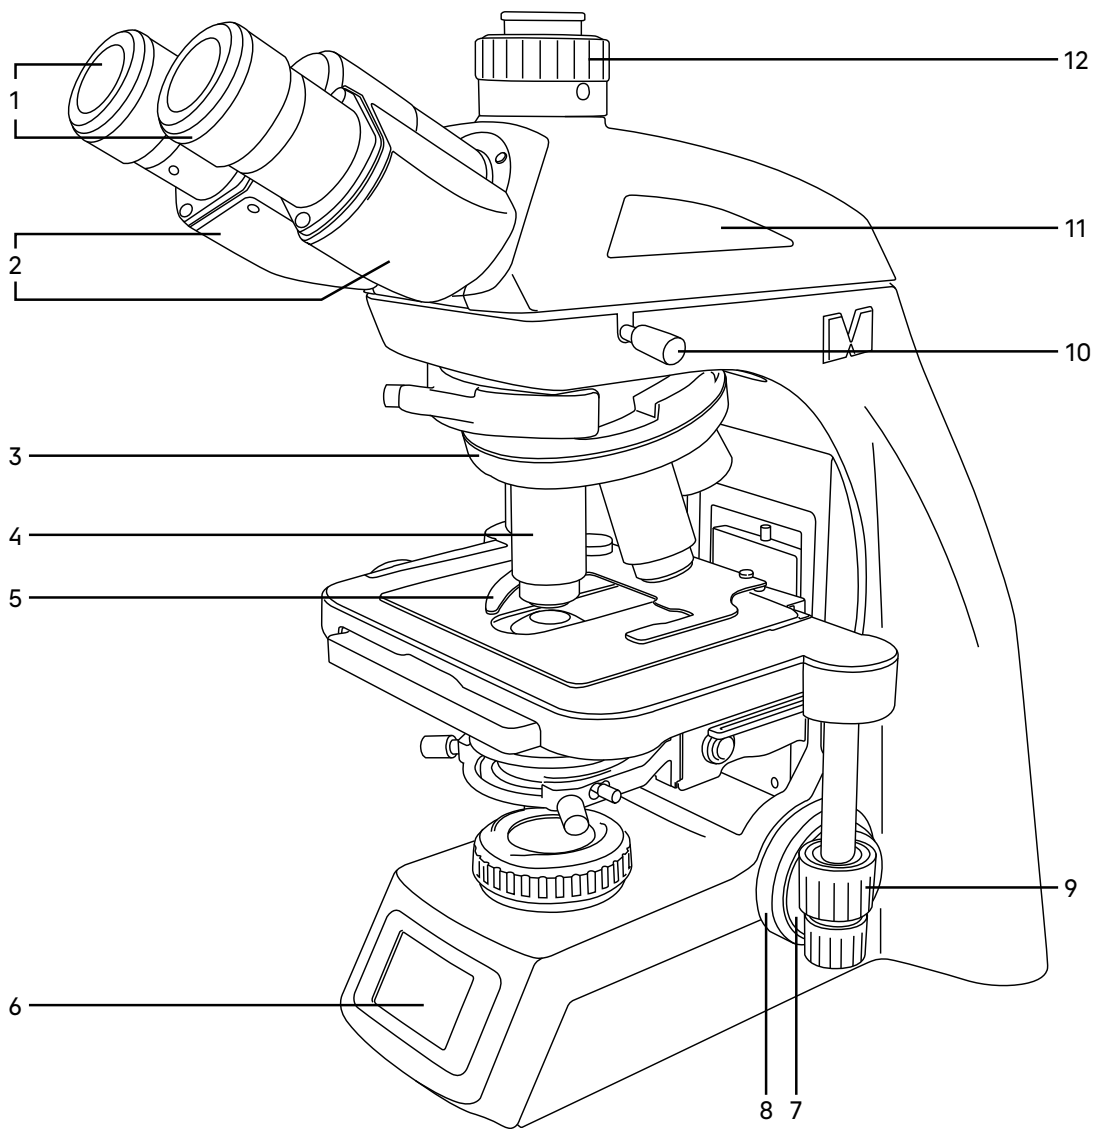
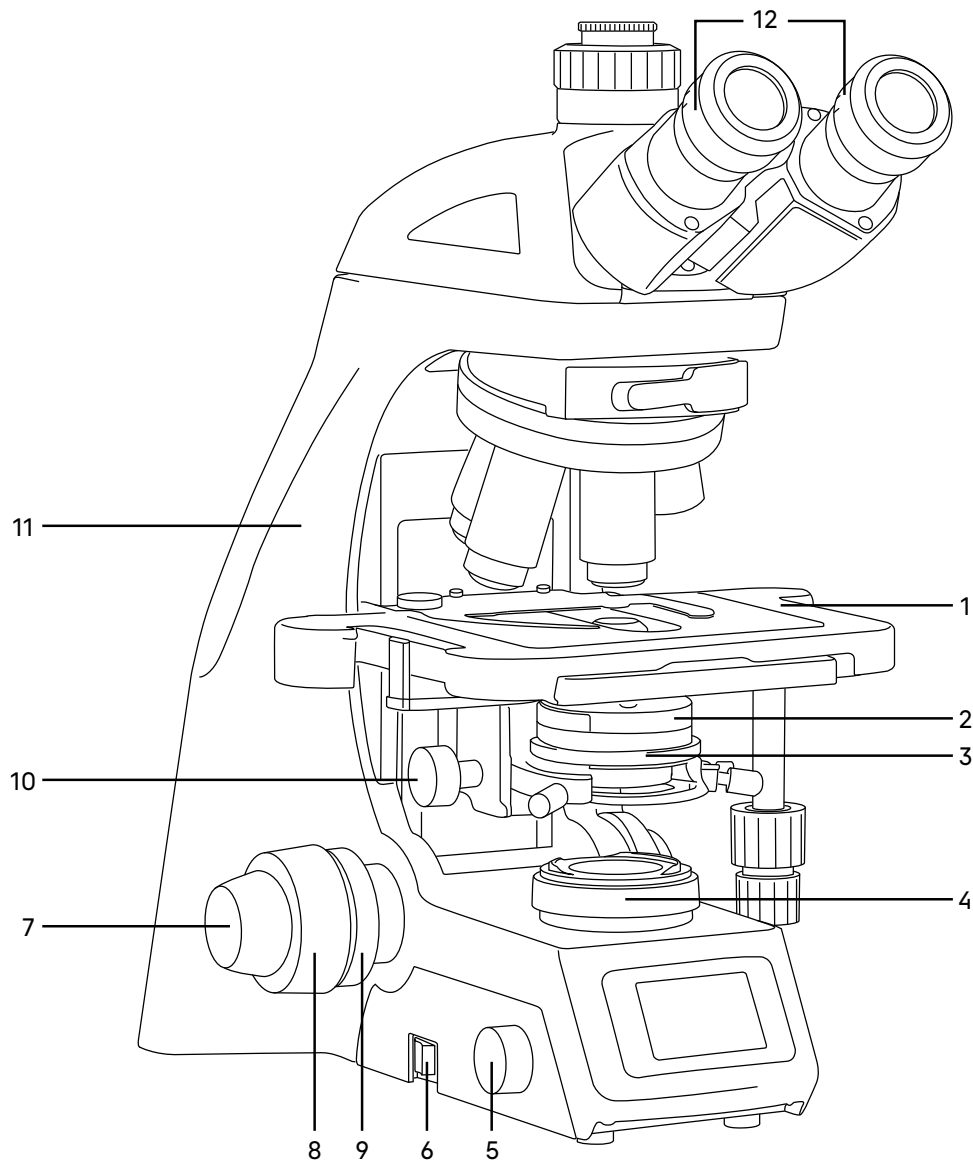

Fig. 1. MAGUS Bio 260 Biological Microscope. View from the right
Fig. 2. MAGUS Bio 260 Biological Microscope. View from the left
The general view of the microscope is given in Fig. 1, 2 and 3.
The stand 11 (Fig.2) is a one-piece structure with the base. The base has Y-shaped stable ergonomic design.
- revolving nosepiece 3 (Fig. 1) with objectives 4 (Fig. 1)
- stage 1 (Fig. 2)
- condenser 3 (Fig. 2)
- collector 4 (Fig. 2)
The knob 5 (Fig. 2) is used to adjust the illumination brightness.
Focusing on the specimen is achieved by adjusting the height of the stage 1 (Fig. 2). Coarse focusing is performed by rotating the knobs 8 (Fig. 1, 2) on both sides of the microscope stand.
Fine focusing is performed by rotating the knobs 7 (Fig. 1, 2) on both sides of the microscope stand. Fine focusing allows for precise focusing on the specimen and re-focusing the microscope to get an accurate image resolution when changing objectives and specimens.
The coarse focusing tension adjusting knob 9 (Fig. 2) is the ring between the stand and the coarse focusing knob on the left side. The ring adjusts the coarse focusing tension so that the tension is comfortable for the user, but the stage does not lower spontaneously during operation.
The head provides the visual observation of the specimen image. The microscope head is installed in the mounting hole on the top of the microscope stand 11 (Fig. 2) and secured with a clamping screw 10 (Fig. 1). When installing the microscope head, turn the eyepieces towards the stage.
The interpupillary distance is adjusted by rotating the eyepiece tubes 2 (Fig. 1) in the range of 47–78mm.
The eyepiece diopter adjustment is intended to compensate for the observer's ametropia. It is located on both eyepiece tubes – ring 12 (Fig. 2).
The trinocular microscope head: A C-mount adapter is installed in the vertical port 12 (Fig. 1) to fix the camera. The camera is used to transmit the image to a computer screen or monitor/TV. The beam splitting ratio (eyepieces/trinocular tube) is 50/50.
The microscope kit includes eyepieces 1 (Fig. 1). The eyepieces have long eye relief and are designed to work with or without glasses.
The revolving nosepiece 3 (Fig. 1) allows for the installation of five objectives 4 (Fig. 1). Objectives are changed by rotating the knurled ring of the revolving nosepiece until the objective fits into place.
Objectives 4 (Fig.1) are designed for the infinity-corrected tube length. Parfocal distance – 60mm, linear field of view – 22mm. They are designed to observe the specimen with the 0.17mm coverslip or without a coverslip. The microscope is equipped with 4x, 10x, 40x, 100x plan achromatic objectives. Objectives of other magnification, correction type and immersion system are available as an option.
The condenser 3 (Fig. 2) is installed under the microscope stage. The condenser is mounted using the guides with the specimen stage raised and the mount lowered. The condenser is secured in the mount with the screw on the right. The condenser mount has a spring-loaded holder, which allows for centering the condenser in the optical path using two screws.
You can move the condenser along the optical path of the microscope using the condenser focus knob 10 (Fig. 2) located on the left of the observer under the stage. The condenser focusing range is at least 26mm.
The iris aperture diaphragm is adjusted (opened/closed) by the ring 2 (Fig. 2). The condenser has marking of the objective magnification. For best image quality, the aperture diaphragm of the condenser should be closed to approximately 1/3 of the objective exit pupil diameter. In this position, the diaphragm control is aligned with the digit of the objective introduced in the optical path, providing a good contrast image.
The X/Y stage 1 (Fig. 2) allows for moving the specimen in two mutually perpendicular directions using the knobs 9 (Fig. 1) located on the same axis.
The stage has no X-axis rack and pinion, which improves ergonomics. The belt-driven mechanism allows for smooth movement of the specimen. The specimen is fixed on the stage between the specimen holder 5 (Fig. 1) and the clip, for which the clip is pulled aside. The specimen holder is secured to the stage with two screws. With the specimen holder removed, the specimen can be moved manually.
The illuminator built into the base of the microscope includes a collector 4 (Fig. 2) and a LED light source.
The illuminator is switched on by means of an ON/OFF switch 6 (Fig. 2) on the left panel of the stand. The brightness is adjusted using the knob 5 (Fig. 2).